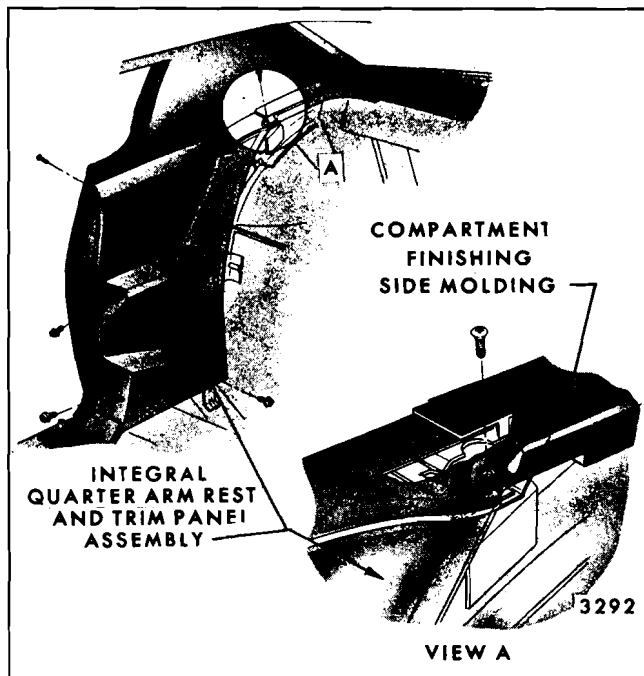

Fig. 14-21—Integral Rear Quarter Arm Rest and Trim Assembly - "69347" Style
- C. Arm rests which are an integral part of the quarter trim assembly and cannot be removed or serviced independently (Fig. 14-21).
NOTE: On all Cadillac styles, the arm rest is an integral part of the quarter trim assembly and must be removed as an assembly with the quarter trim, as shown in Figure 14-21.
4. On Cadillac "E" styles, remove screw securing compartment side finishing molding to quarter trim (Fig. 14-21).